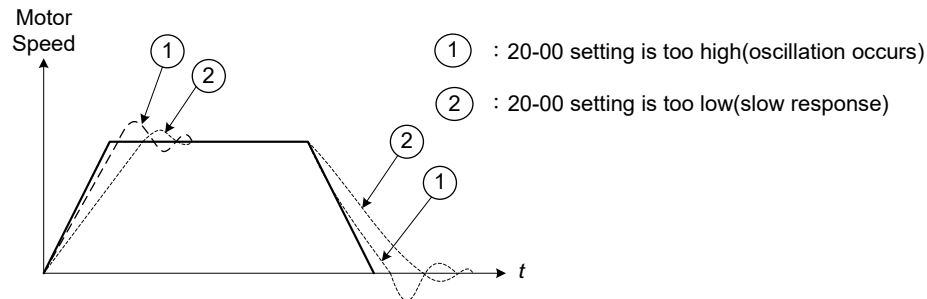
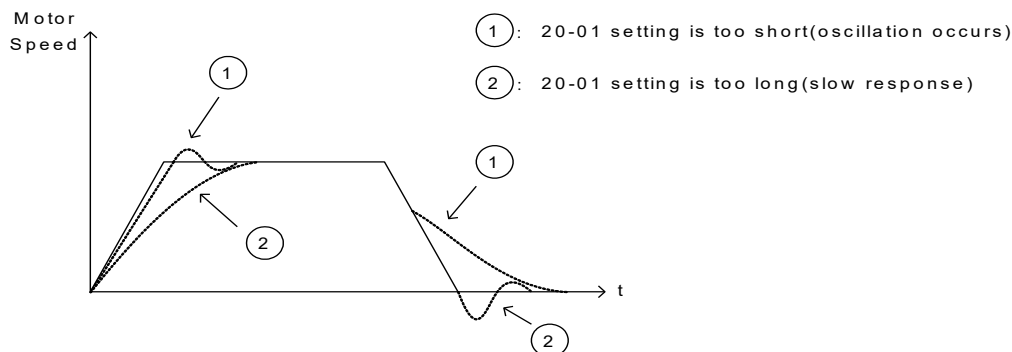

Figure 4.3.97 System response of ASR proportion gain
Figure 4.3.98 The response of ASR integral time
- Integral control allows the motor speed to quickly reach its the target speed but may cause overshoot or instability. Refer to Fig. 4.3.97 & Fig.4.3.98.
Use parameter 20-00 and 20-02 to adjust the speed response for each cycle. Increasing the values of 20-00, 20-02 increases system response, but may cause system instability. See Fig.4.3.97.
Derating of torque compensation function can reduce the ASR impact during a sudden load change. Refer to Fig. 4.3.97 & Fig. 4.3.98.